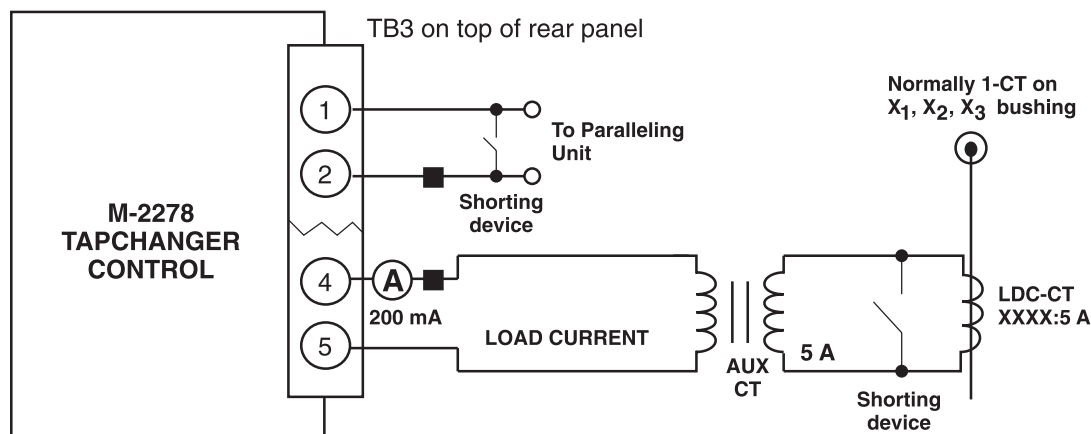

Figure 8 Setup for Current Checkout Procedure
5. As shown in Figure 8, temporarily place a shorting device across the LDC-CT secondary to short the line drop compensator circuit, and place another shorting device across TB3-1 and TB3-2 to short the circulating current paralleling input, for the load current check. Insert an ammeter between the polarity input and TB3-4. Open the load current shorting device and with a known load on the transformer or regulator, measure the current in the load current circuit to ensure that this current is correct for 0.2 A full load.